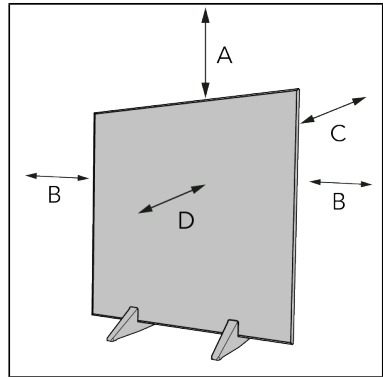

Figure 36.
4. Place the device with a minimum clearance distance (Figure 36) of: